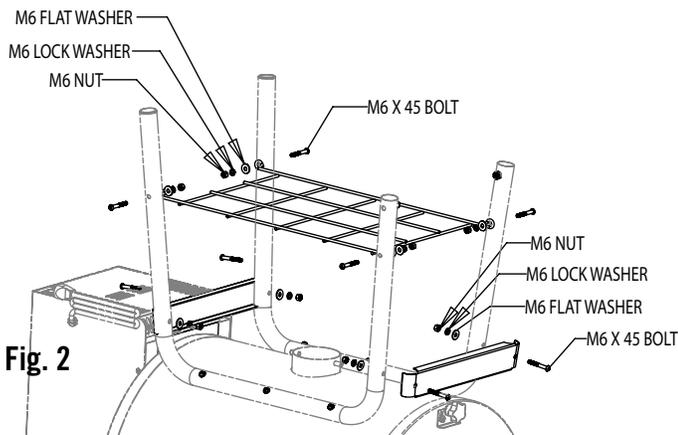

Fig. 2
2. Assemble Qty (2) leg brackets onto the legs as shown in Fig 2 using Qty (4) M6 x 45 Bolts, Qty (4) M6 Flat Washers, Qty (4) M6 Lock Washers, and Qty (4) M6 Nuts. Finger tighten hardware.
3. Assemble the wire shelf to the legs as shown in Fig 2 using Qty (4) M6 x 45 Bolts, Qty (4) M6 Flat Washers, Qty (4) M6 Lock Washers, and Qty (4) M6 Nuts. Finger tighten hardware.